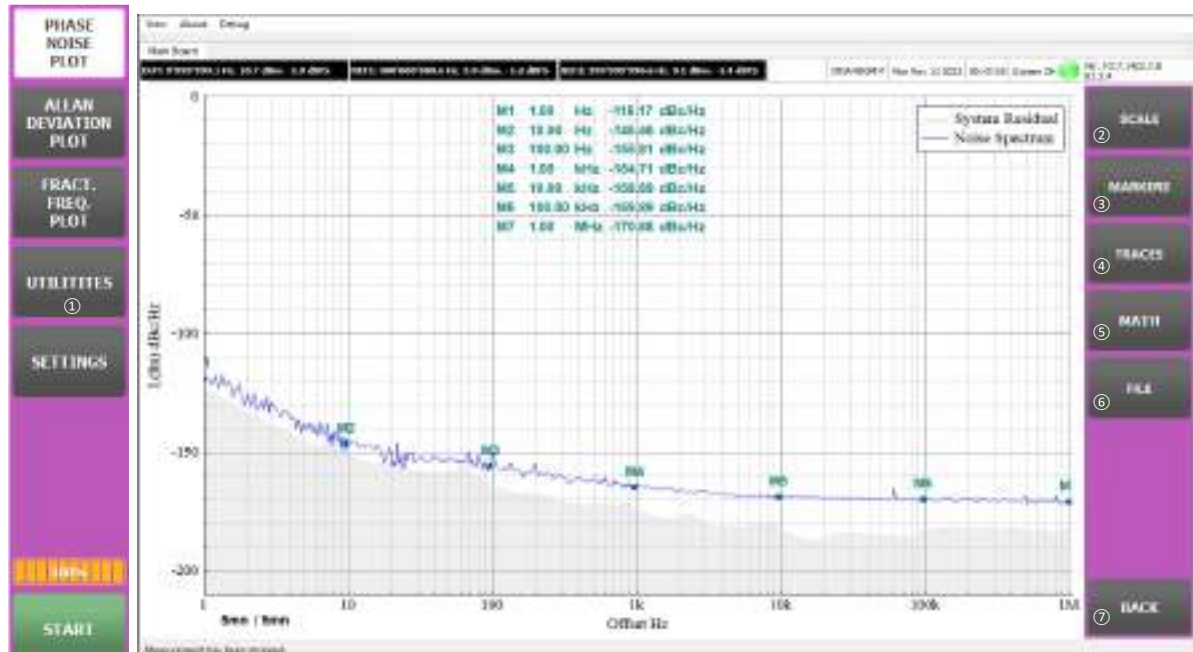

Figure 16 – Utilities menu
- ⑭ Click this button to get access to different utilities (Figure 16 – Utilities menu).
When the **SCALE** ② button (Figure 16 – Utilities menu) is click, a scale range widget is shown in order to setup a default scale range.